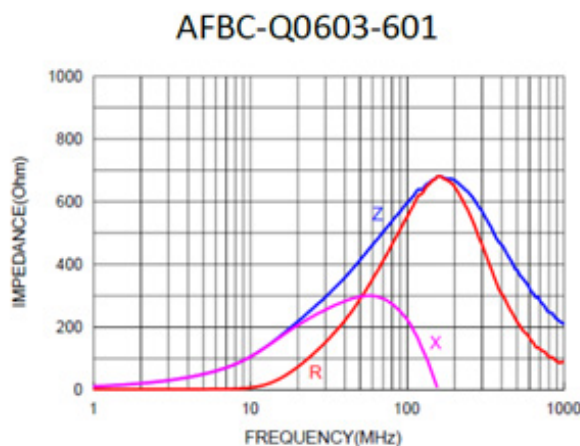

Figure 5: Frequency characteristics of AFBC-Q0603-601
From Figure 5, the bead will be in the inductive region at lower frequencies up to the point where the reactance (X) curve crosses the resistance (R) curve, approximately 50MHz as shown in figure (5). This is called the crossover point. In this region, the bead becomes more resistive as the frequency increases. The impedance of the bead continues to rise until it peaks at the resonant frequency. From the graph above, the impedance (blue curve) peaks at 170MHz. This is where the impedance is purely composed of its resistive component and the bead is in its most lossy state. Beads should be chosen such that the anticipated noise frequencies in the system fall in the resistive range. At higher frequencies, the impedance rolls off and the bead enters the capacitive region.
Shown in Figure 5, the impedance of the AFBC-Q0603-601 device peaks between 100 and 300 MHz, making it a good fit for applications where noise or interference in this frequency range exists. The noise at these frequencies would experience higher impedance than those at lower frequencies. Generally, the impedance of the device should be as high as possible in the noise frequency band. Consequently, this can cause the impedance at lower frequencies to be higher as well and can affect the integrity of the signals operating at these lower frequencies. Therefore, a bead must be chosen carefully to not adversely affect signaling operation but have enough impedance at higher frequencies to ensure proper EMC compliance. Keep in mind that the impedance characteristics of the bead can change with different operating conditions, such as DC bias and temperature.